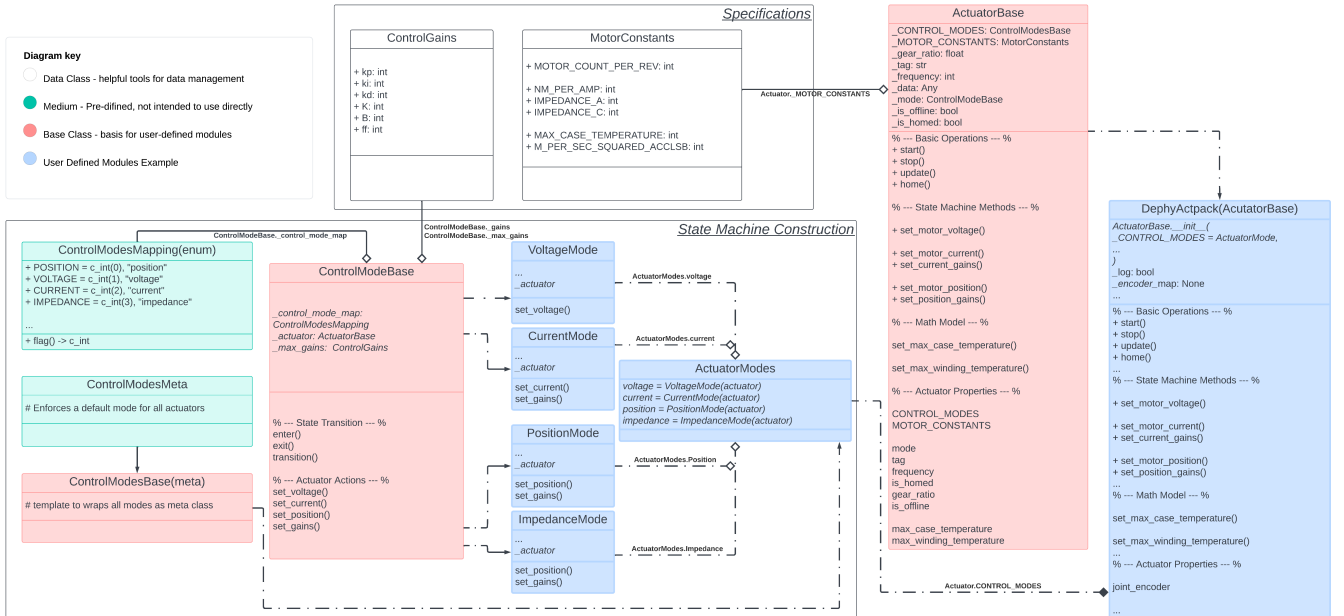

Figure 2: Class Diagram of Generalized Python Library
- A base library for Open-Source Leg actuator and sensor modules, as Figure 2, and examples of a redeveloped actuator module.